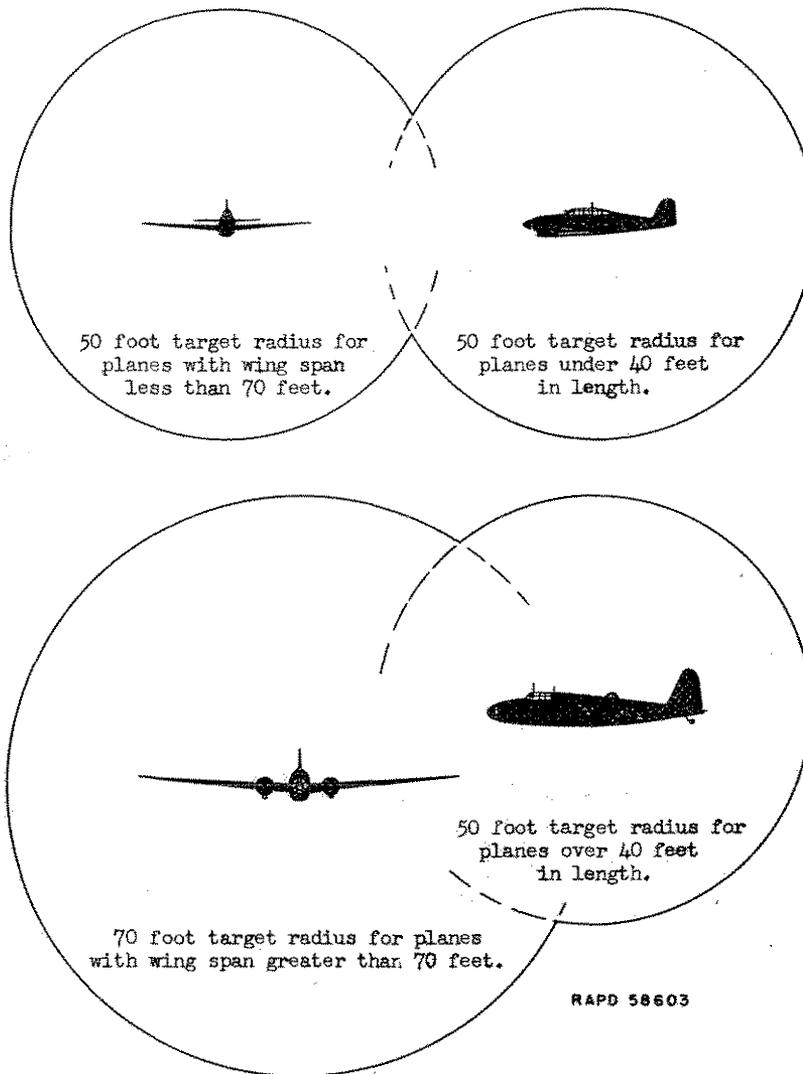
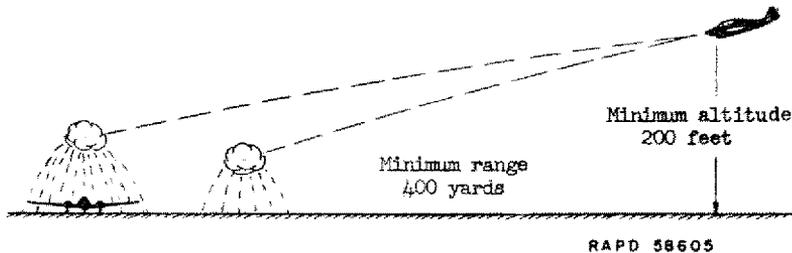

FIG. 2. EFFECTIVE SIZE OF TARGETS WITH FUZES T4 AND T5
FIG. 4. AFFECT OF MATERIAL OBJECTS ON BURST HEIGHT OF FUZE T5
a. General. - Fuzes T4 and T5 function automatically due to the influence of the target instead of by impact or time action, thereby effectively increasing the target size. When the rocket passes within 50 to 70 feet of the target (fig. 2), fuze T4 is functioned by photoelectric action and fuze T5 is functioned by electromagnetic action at a point where greatest damage will be inflicted on the target.
(1) The fuze T5 is an electromagnetic fuze which functions due to the presence of a target. The fuze arms approximately 1 second after the rocket is launched and detonates when it comes into the influence of a target or when it approaches within 15 to 100 feet of the ground or water. A self-destroying feature will detonate the rocket approximately 6 to 12 seconds after being fired if the fuze does not pass within operating range of a target (fig. 2) or does not approach the earth.
(2) This fuze may be used during day or night and is not affected by fog or clouds. In addition to plane-to-plane use it is suitable for plane-to-ground use.
(3) Plane-to-ground use of the fuze T5 will result in an airburst at a height most lethal to personnel and most effective against light material targets. Terrain irregularities, trees, and material targets will cause bursts to occur at greater heights than would occur over level terrain. This characteristic may be used to an advantage in that fire power may be easily concentrated on such targets (fig. 4). The dive angle will not alter the effectiveness, but low altitude approach, or approach below  $10^3$  from horizontal will result in increased range dispersion.